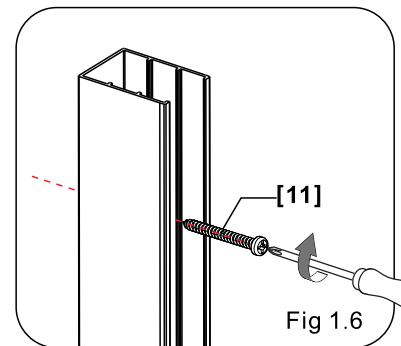

Fig 1.6
5. Secure the **Wall Jambs [01]** on the wall with **Screws [11]**. (Fig 1.6)